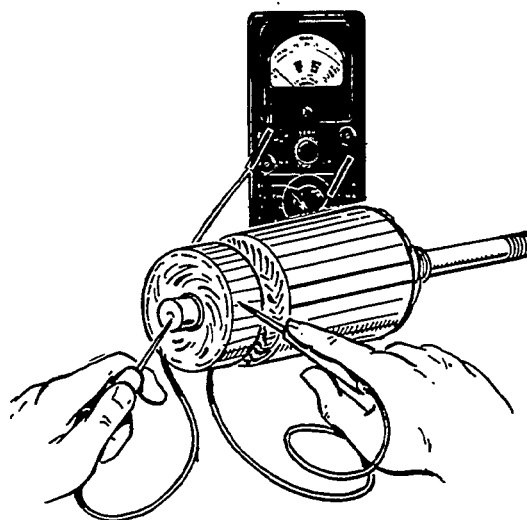

FIGURE 19. TESTING ARMATURE FOR GROUNDS
1. **Testing Armature for Grounds:** Touch armature shaft or core and the end of each commutator bar with a pair of ohmmeter leads. If the ohmmeter reading is low, it indicates a grounded armature. Replace grounded armature. See Figure 19.